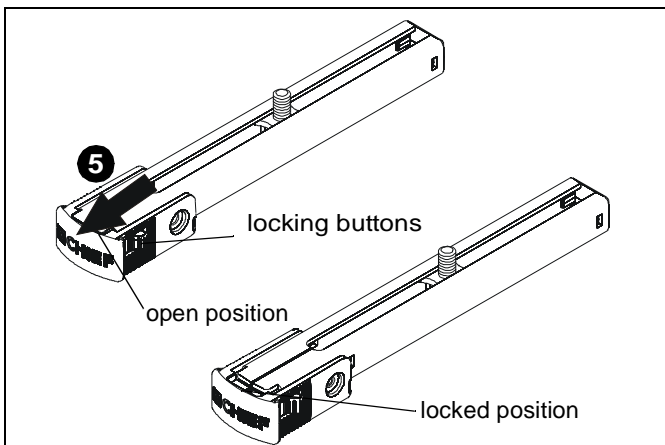

Figure 5
5. Press locking buttons on SLBU/SLMU leg (C) firmly and simultaneously push clip cover away from enclosed sliding stud mount bracket until clip cover is in the locked position. (See Figure 5)